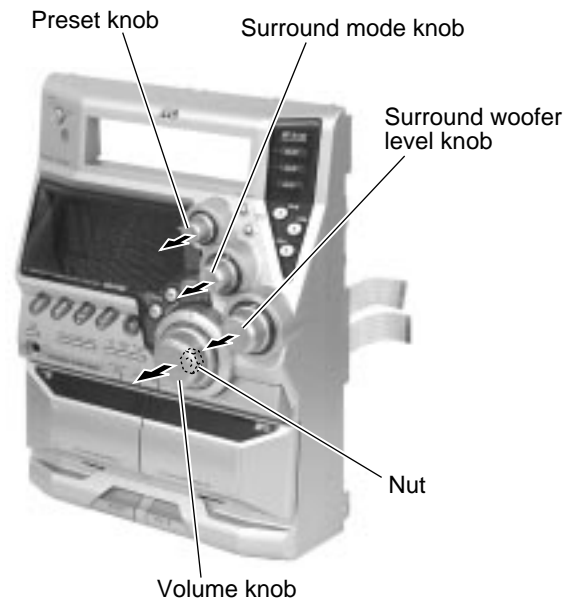

Fig.30
**■ Removing the operation switch board (See Fig.30 and 31)**